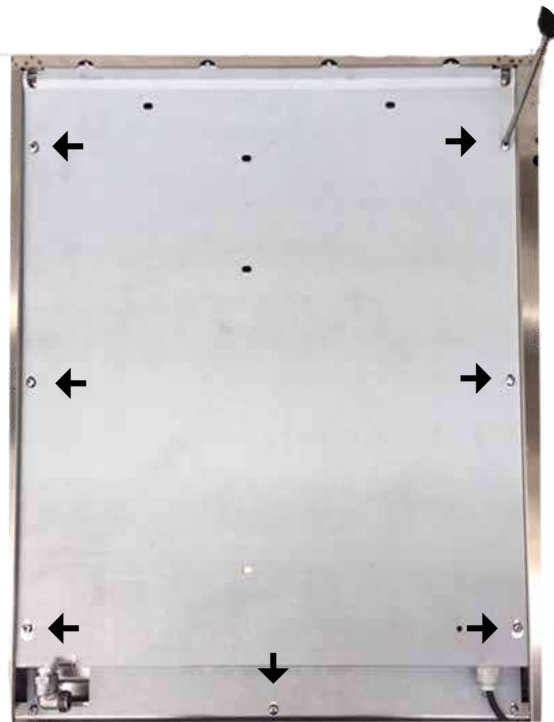

Fig. 5b
2. Unscrew the screws marked with the arrows that fix the worktop to allow it to be raised, fig.5, fig.5a, fig.5b (H360 – HP95 – HP665).